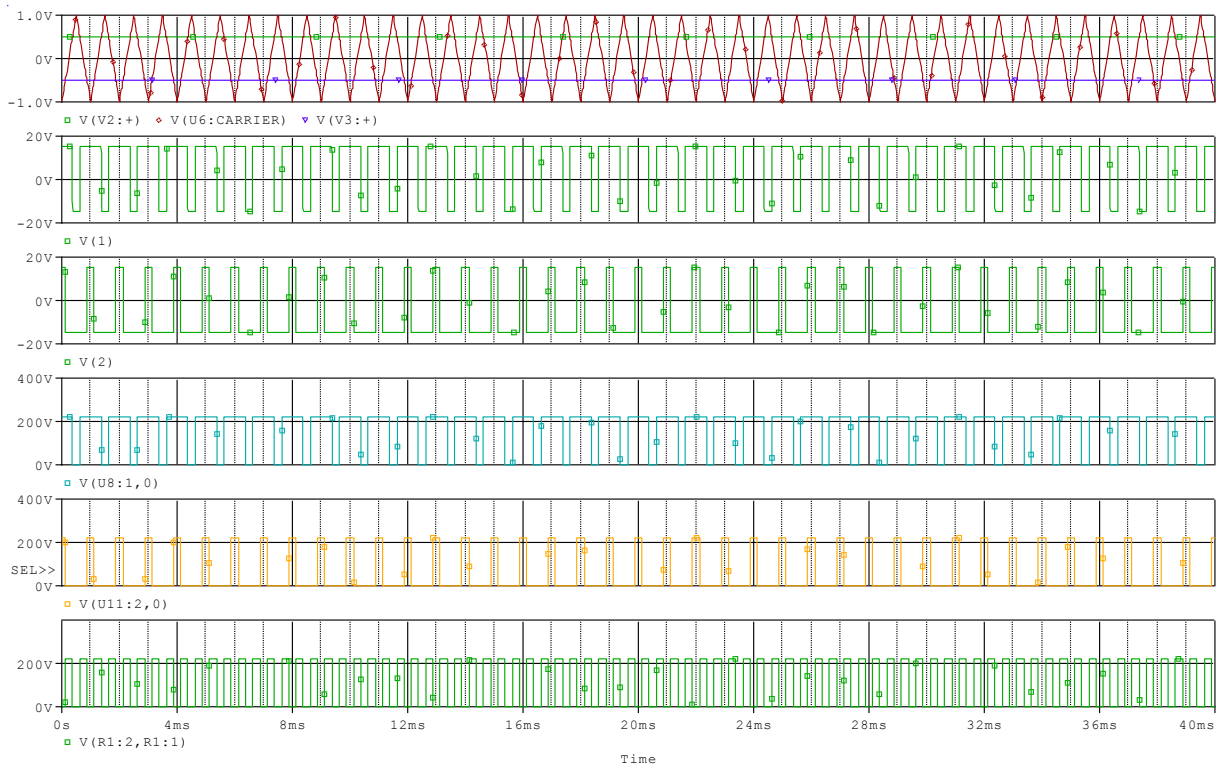
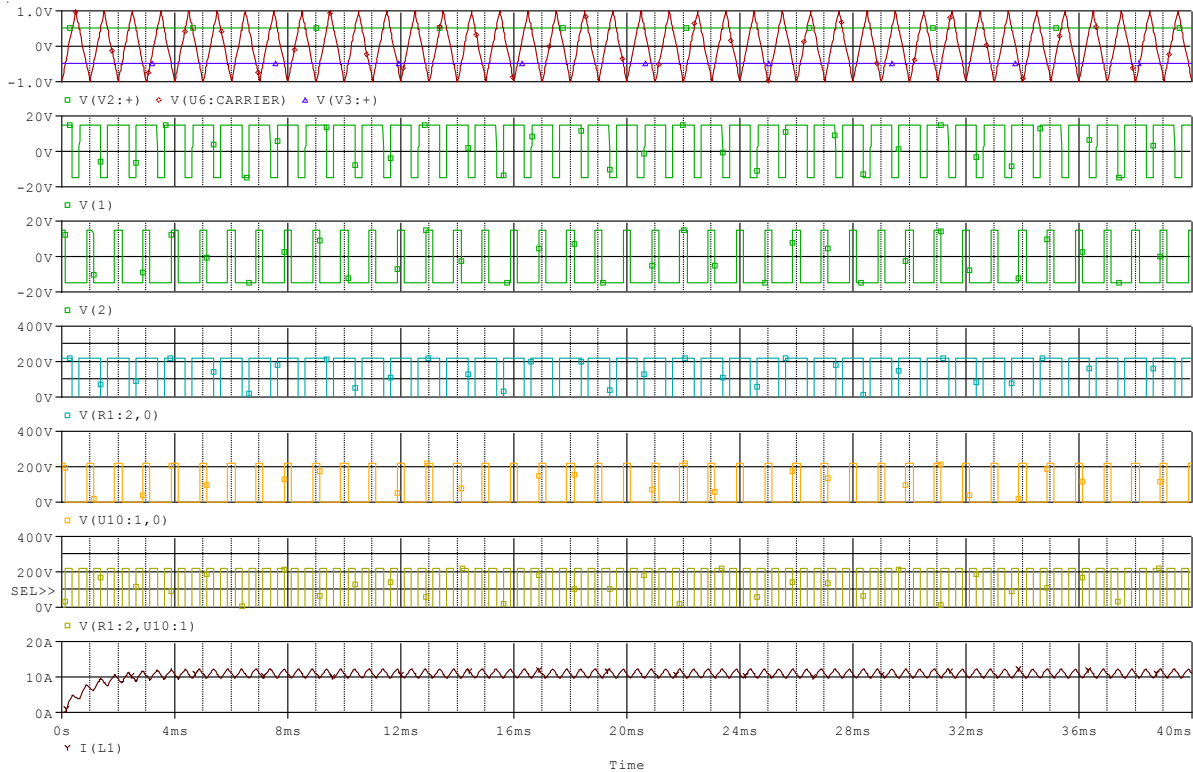

Figure 5
Figure 6
- 7) Reproduce Figure 5. Average output voltage is 110V and the duty ratio is 50%.
3. Plot signals in Figure 5 as well as load current. Reproduce Figure 6.